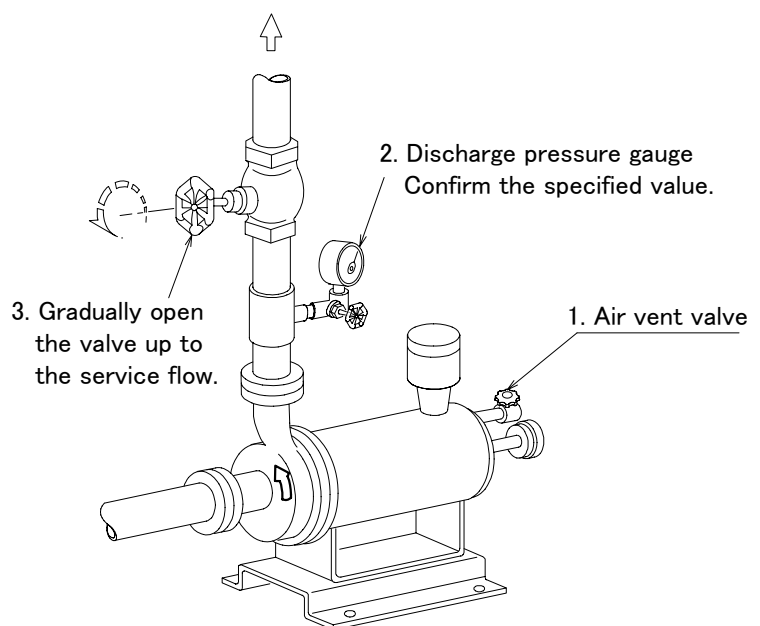

Fig.3-10 Startup of Pump
- (3) After completion of air venting, restart the pump. Check to see that the pressure gauge on the discharge side indicates the specified value, and gradually open the discharge valve to raise the discharge flow up to the service flow. (Refer to Fig.3-10.)
- (4) Note the pressure difference between the points before and after the strainer on the suction side.